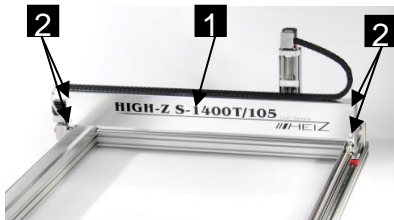

Figure 34.: Covering Y-axis
- 2 Loosen and remove the four screws (Fig. 34/2)
- 3 Remove Cover (Fig. 34/1) on the Y axis.